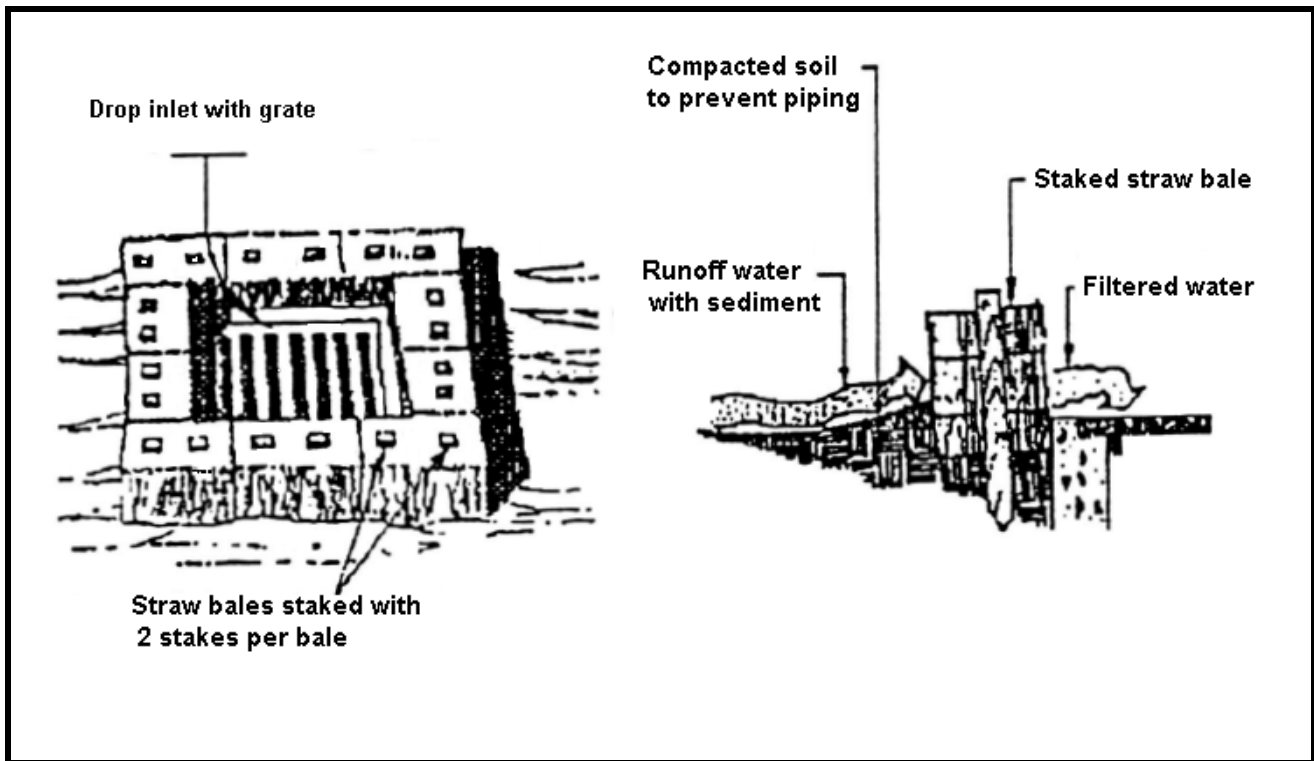

Figure 1
2. Bales shall be placed lengthwise in a single row surrounding the inlet (see Appendix B - Exhibit IV, figure 1), with the ends of adjacent bales pressed together.
3. The inlet protection shall be entrenched and backfilled. A trench shall be excavated around the inlet the width of a bale to minimum depth of four (4) inches. After the bales are staked, the excavated soil shall be backfilled and compacted against the straw bales.